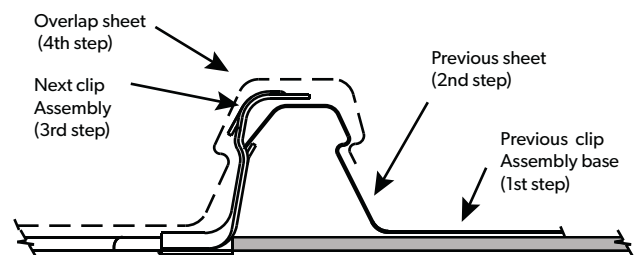

Figure 9.1.13
12. Fully engage the two sheets along the overlapping rib. You can do this by walking along the full length of the sheet with one foot in the centre pan of the previous sheet and the other foot applying vertical pressure to the top of the interlocking ribs at regular intervals. It is recommended that you don't walk in the unsupported pan beside the underlapping rib. (Figure 9.1.13).